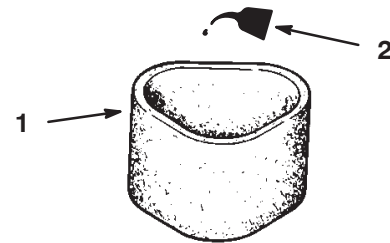

Figure 17
3. Put one or two ounces of oil on the element (Fig. 17). Squeeze the element to distribute the oil.